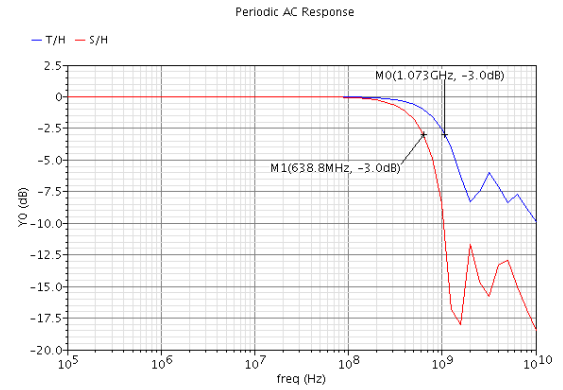

Fig. 1: Small signal transfer function from input to T/H and S/H nodes.
1) *a*: The transfer function plot from input to T/H and S/H node are given in Fig.1. The 3dB bandwidth at the first hold capacitor is around 1.073 GHz, and at the second hold capacitor is about 638.8 MHz.